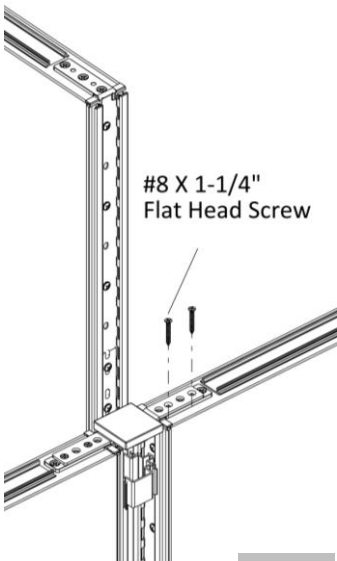

Figure 9
- 15.** Drive two #8 X 1-1/4" Flat Head Screws through the holes in holes in straight top connector into the third panel, (Figure 9).